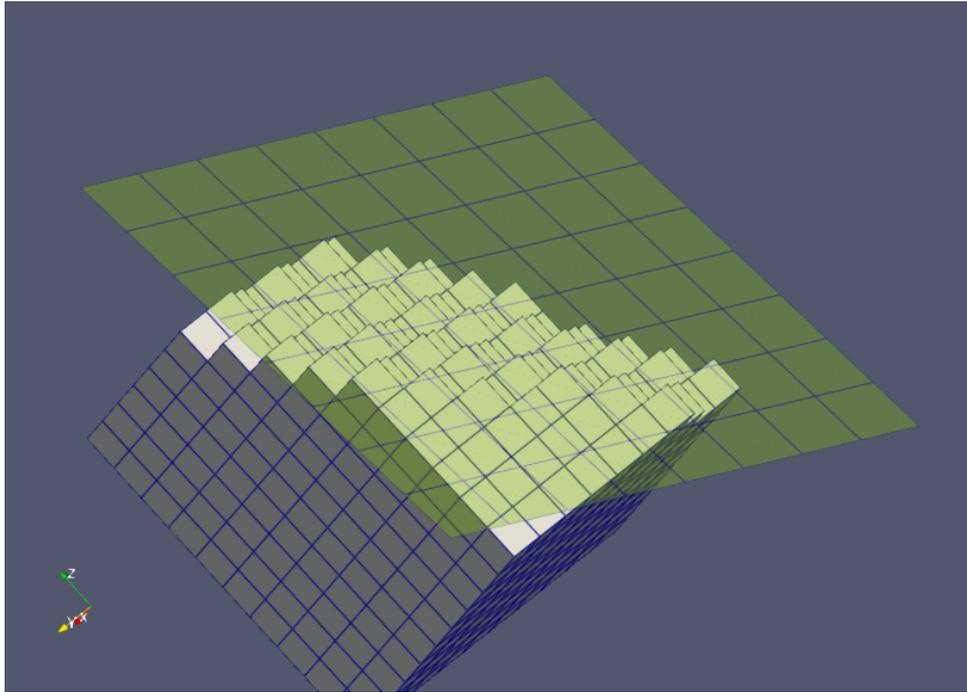

Fig. 2.50: Clipping a block model without further options
- All options turned off: Fig. 2.50